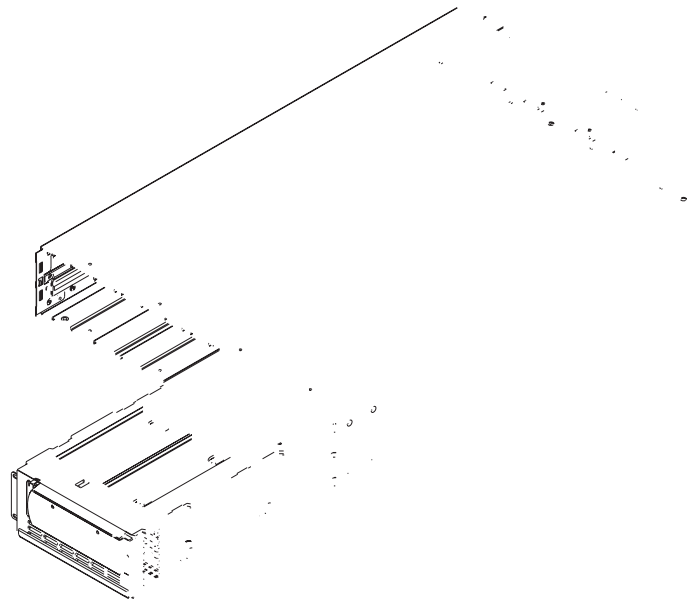

Figure 240. Removing the electronics unit from the 2145 UPS
4. Remove the two screws (**1** in Figure 240).
5. Pull the electronics assembly (**2** in Figure 240) out from the 2145 UPS.